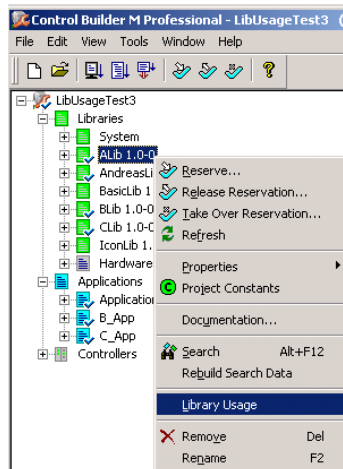

Figure 43. Library Usage
1. Right-click the library and select Library Usage as in Figure 43. The Library Usage dialog box is displayed with list of applications where the library is connected.